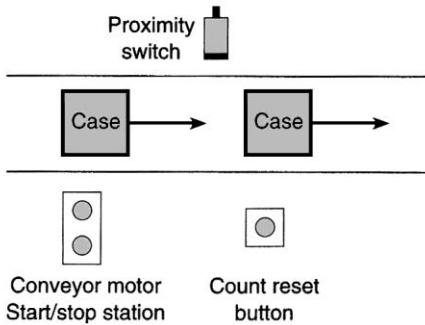

Figure 8-20 Control process for assignment 15.
15) Design a PLC program and prepare an I/O connection diagram and ladder logic program that will correctly execute the conveyor motor control process illustrated in Figure 8-20. Enter the program into the PLC, and prove its operation. The operational sequence can be summarized as follows: